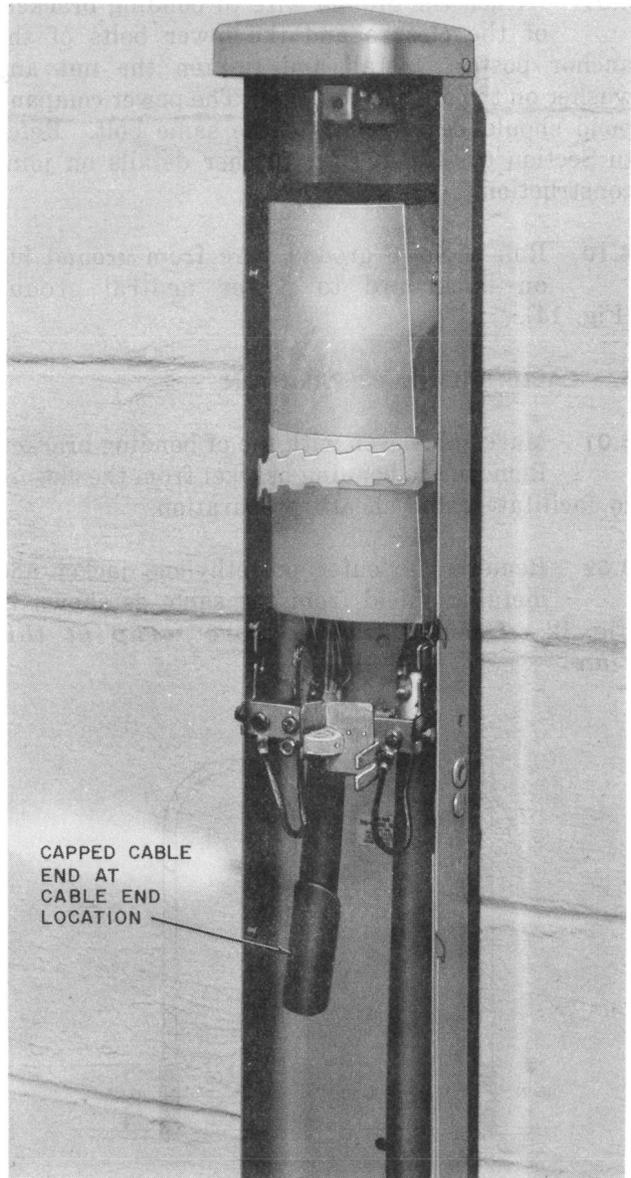

Fig. 15—Capped Cable End
5.07 At cable end location, cap the cable end as shown in Fig. 15 and as outlined in Section 631-600-005 (waterproof cable) or Section 633-505-211 (air-core cable).